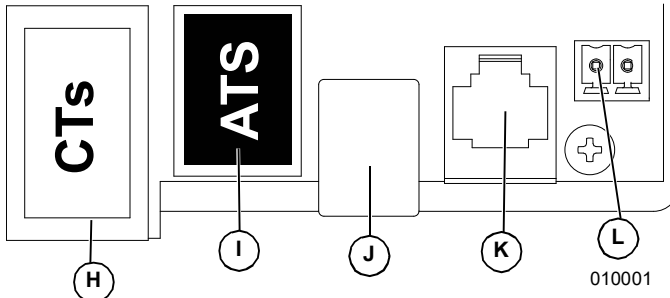

Figure 5-16. Accessory Ports
2. See Figure 5-16. Connect Cat 5 cable to a CT accessory port (H).